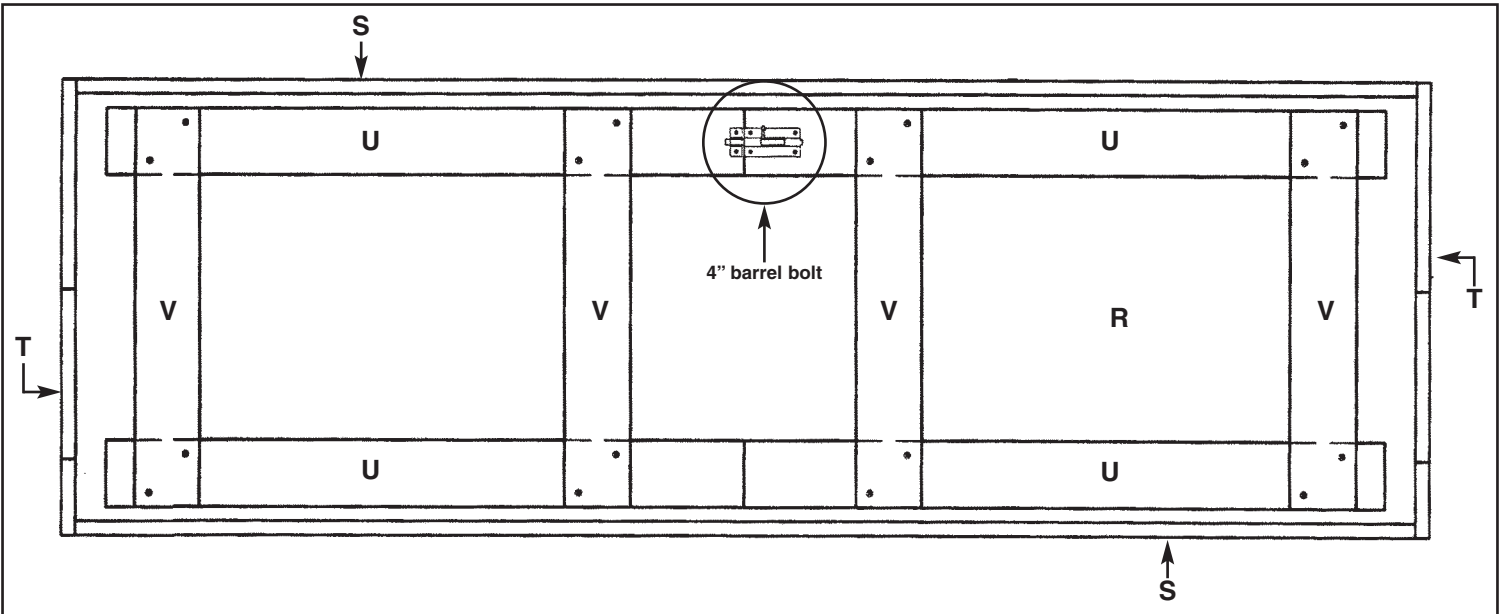

Figure 4
19. Install a 4" barrel bolt to hold the legs in the closed position. Refer to Figure 4 for position.